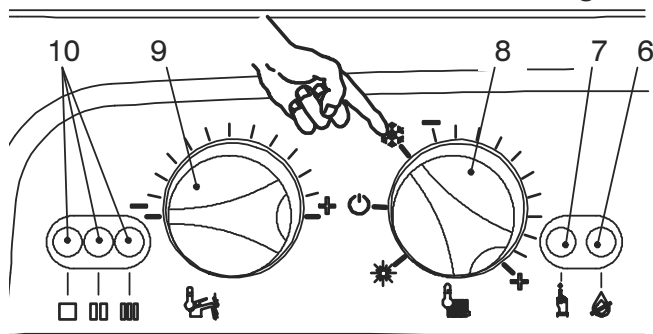

Fig. 7.8
- 2 Set the function knob 8 as illustrated in Fig. 7.8.